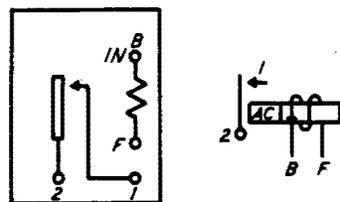

Fig. 25 – Winding and Spring Terminal Arrangement as Viewed From the Front (contact side) — 85-Type Relay
2.39 The front contact spring is indicated by 1 and the armature by 2. On those relays having two contact springs, the front contact spring is indicated by 1 and the spring that rests on the armature stud is indicated by 2. The relative location of the winding and spring terminals and typical designations are shown on Fig. 25.